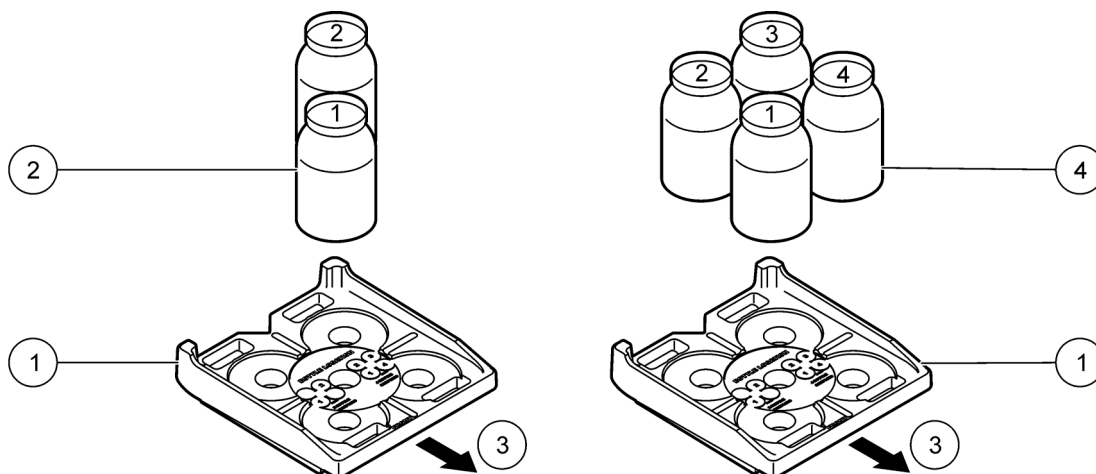

Figure 12 AWRS two and four bottle installation
4. For All Weather Refrigerated Samplers, place the bottles in the refrigerator as shown in Figure 12.